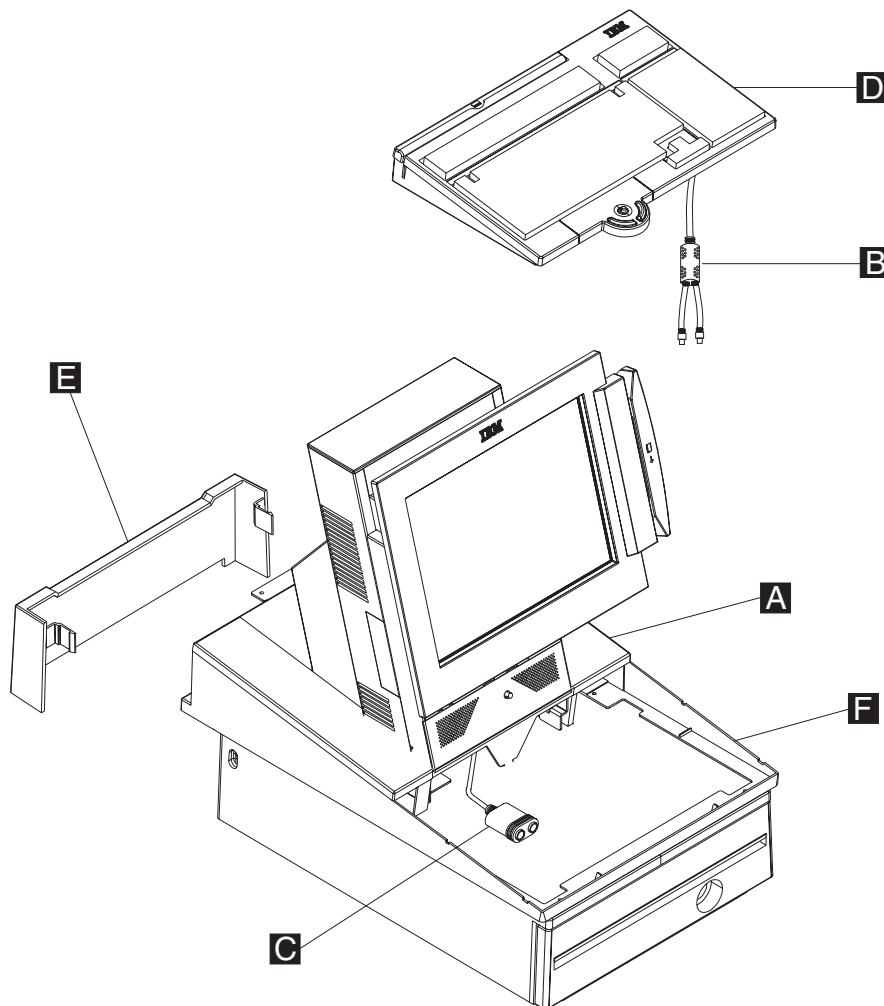

Figure 110. Removing the keyboard from the integration tray
- a. Remove the keyboard **D** from the keyboard integration tray by lifting the keyboard up and off the keyboard integration tray, as show in Figure 110.